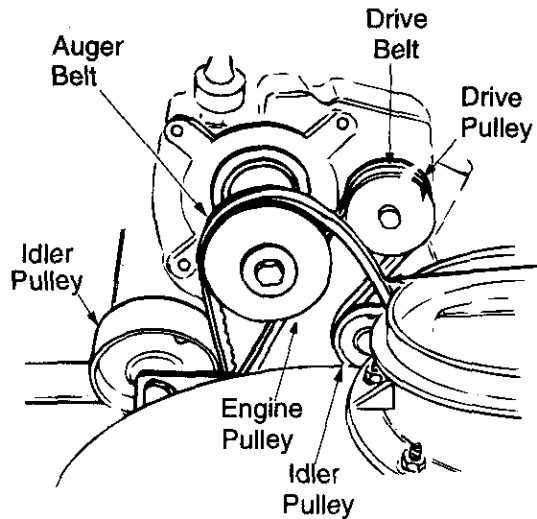

Figure 26
5. Roll the auger belt off the engine pulley. See Figure 26.
8. Lift the rear auger belt from the auger pulley, and slip belt between the support bracket and the auger pulley. See Figure 26. Repeat this step for the front auger belt.
2. Pull idler pulley up, and lift belt off engine pulley and friction wheel disc. See Figure 26.